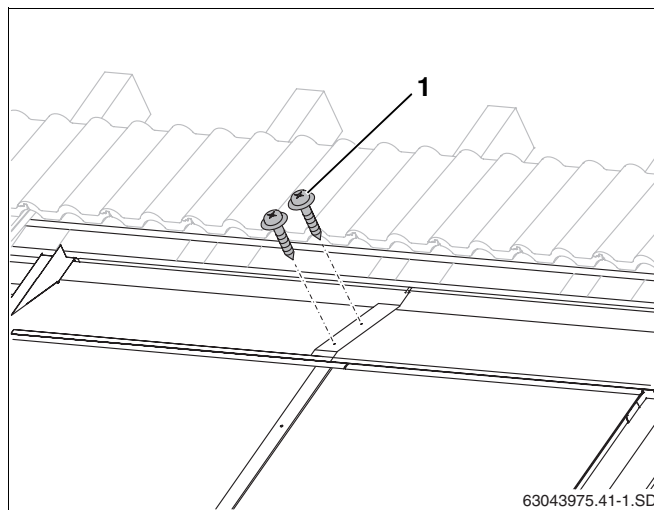

Fig. 59 Joining upper facing collectors with screws
- Fasten each collector overlap with two 25 mm long plumbing screws (Fig. 59, **Item 1**) (provided).